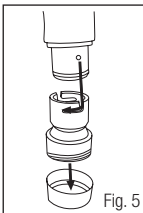

Fig. 5
2. If using a BT series breathing tube, first screw the 3M™ V-199 adapter into the outlet port of the GVP-100. Then attach the BT breathing tube to the adapter by inserting the tube end with two prongs into the top of the adapter. Twist the end of the tube to lock it in place (Fig.5).